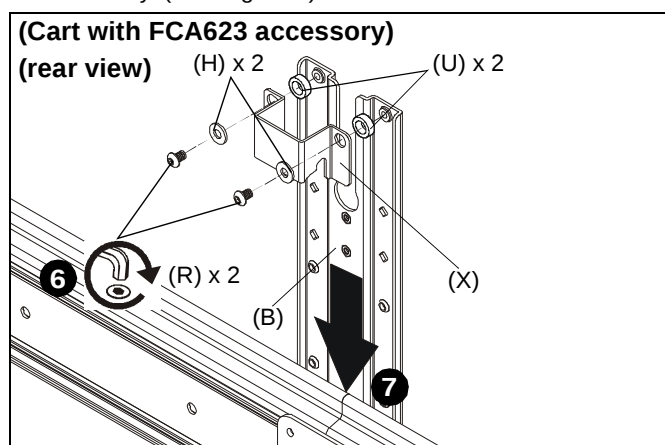

Figure 9
6. Use two 1/4-20 x 7/16" button head cap screws (R), two large washers (H) and two 1/2" spacers (U) to secure shelf bracket (X) to main bracket (B). (See Figure 9)
7. Slide main bracket (B) onto front of cart/ceiling mount head assembly until shelf bracket (X) rests on top of head assembly. (See Figure 9)